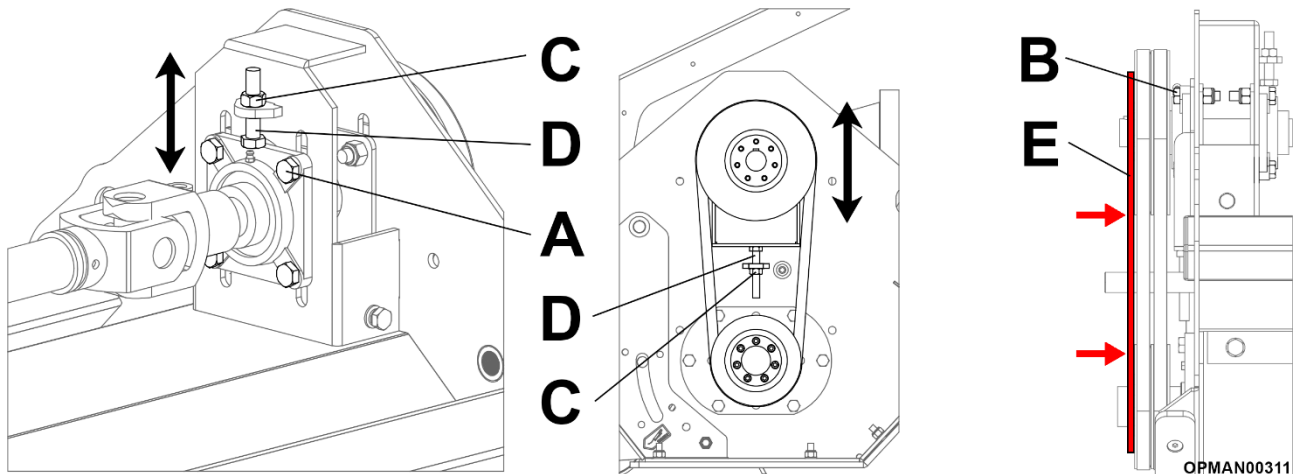

Figure 5.45 – Secondary Belt Tensioning & Pulley Alignment
5.4.6.2 Loosen the bolts on the inner bearing collar; see Figure 5.45 (A) and the bolts on the outer bearing collar; see (B).